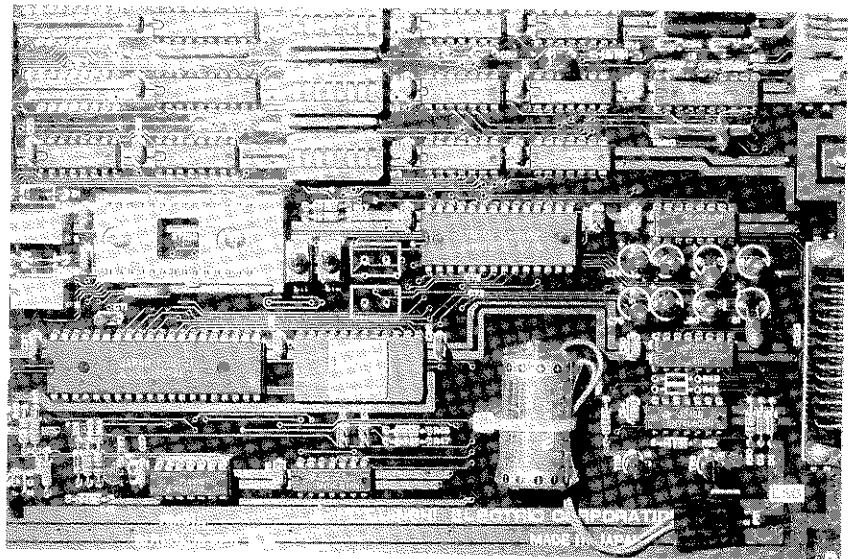

Fig. 2.1.12.
- (1) After ensuring that the power is OFF, loosen the upper and lower screws on the card in the first slot from the left in the rear of the drive unit. Then, slide the card all the way out.
- (2) Pass the Insulock Tie (Teflon band) furnished into the mounting hole in the empty area located on the right bottom of the card and secure the battery in position as shown in Fig. 2.1.12.
- (3) Pick up the both ends of the battery socket and plug the socket into the connector (PS1) on the card. At this time, make sure that the side of the socket where the electrode is visible faces down (the card surface) to ensure correct polarity.
- (4) After the above procedures have been complete, reinsert the card into the first slot from the left and secure it by tightening the upper and lower screws.